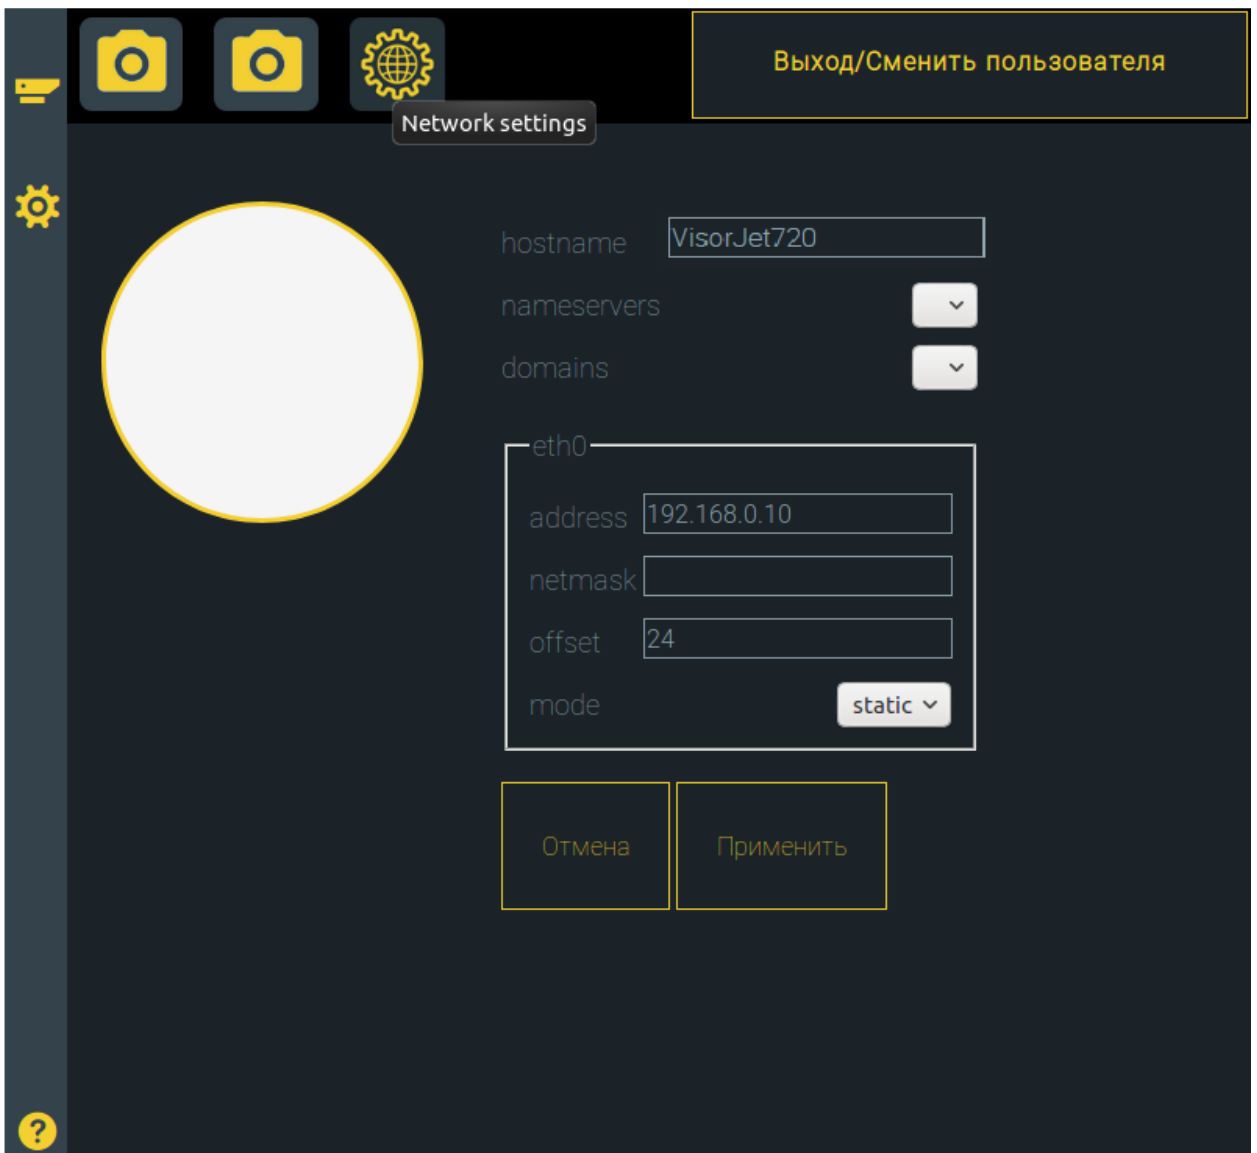

Figure 5.6 Network settings screen for VisorJet 720
3. Go to the network settings section by clicking on the icon in the upper left corner (Figure 5.6).